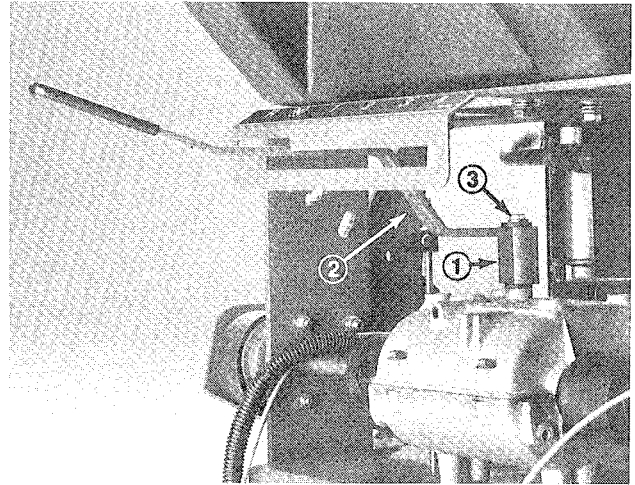

Figure 3
2. Insert shift lever thru slot in control panel and align mounting hole in lever with mounting block on transmission. Secure lever to transmission with 1/4-28 x 2" lg. cap screw and thick, black, washer. Torque capscrew to 100-125 in.-lb (Fig. 3).